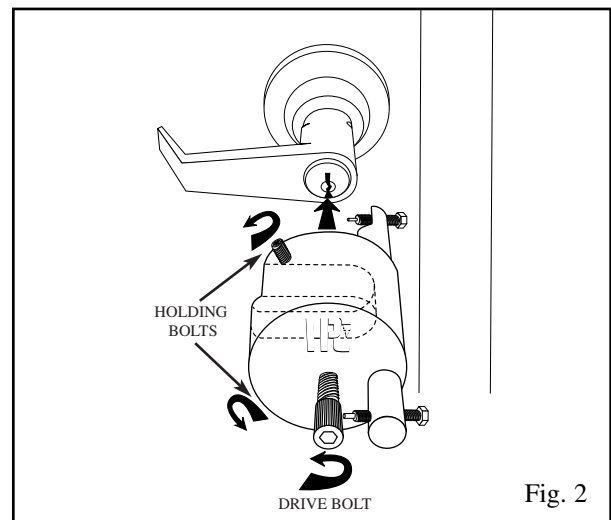

Fig. 2
2. Back off Drive Bolt and Holding Bolts before placing Hub onto lever lock handle (see fig. 2).